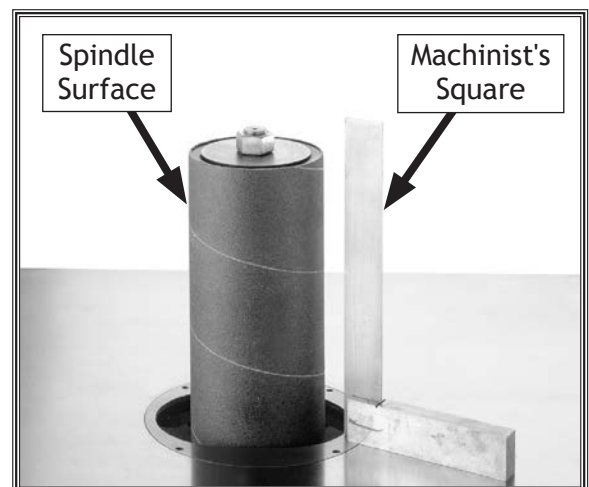

Figure 17. Checking table for square.
- Using a machinist's square, bring table surface square to spindle surface, as shown in **Figure 17**.